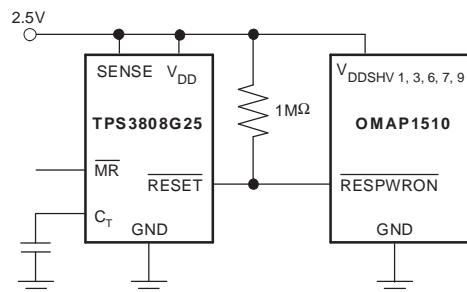

Figure 10. Typical Application of the TPS3808 with an OMAP Processor
A typical application of the TPS3808G25 used with the OMAP1510 processor is shown in Figure 10. The open-drain RESET output is typically connected to the RESET input of a microprocessor. A pull-up resistor must be used to hold this line high when RESET is not asserted. The RESET output is undefined for voltage below 0.8V, but this is normally not a problem since most microprocessors do not function below this voltage. RESET remains high (unasserted) as long as SENSE is above its threshold (V_{IT}) and the manual reset (MR) is logic high. If either SENSE falls below V_{IT} or MR is driven low, RESET is asserted, driving the RESET pin to a low impedance.